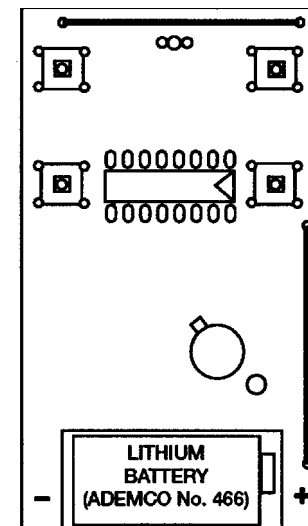

Figure 2. No. 5801, Cover Removed
2. Install the Lithium battery supplied in the battery compartment, **observing correct polarity** (see Fig. 2). Make sure the battery is firmly seated.